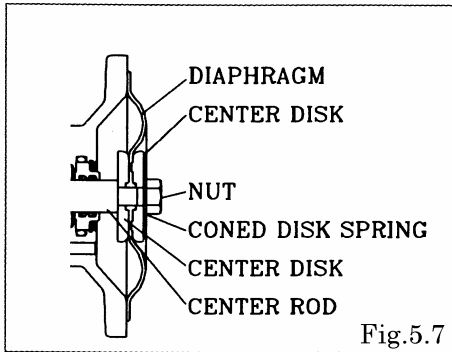

Fig.5.7
- Keep the convex side to the outside (cf.Fig.5.7).